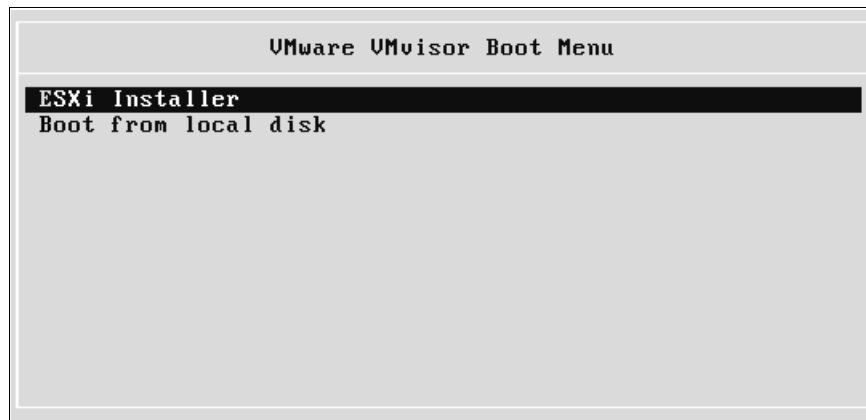

Figure 2-116 Boot Menu of ESXi
1. At the Boot Menu of ESXi 4, you need to click **ESXi Installer**, because we want to install it to a drive, as shown in Figure 2-116.